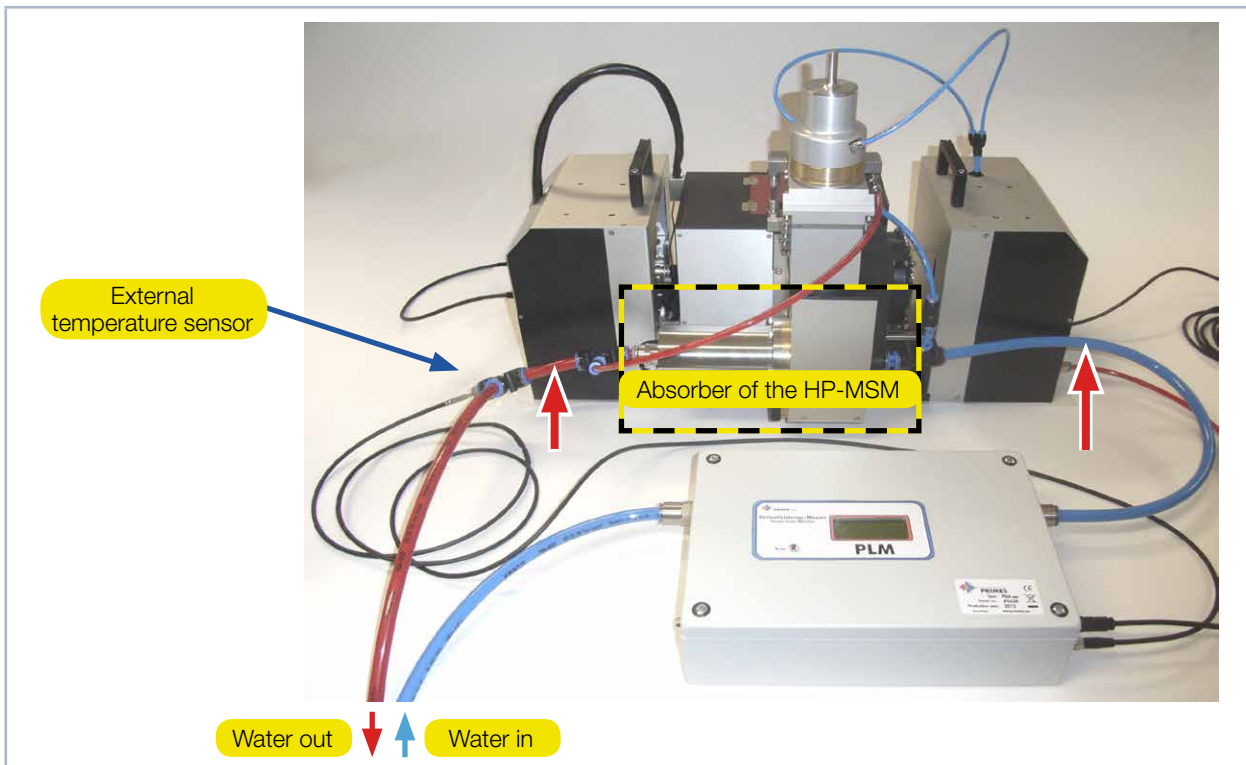

Fig. 7.4: Cooling Circuit PLM 10 with external temperature sensor with the example of the HP-MSM
1. Plug the external temperature sensor into the cooling circuit output using a T-piece (see Fig. 7.4 on page 16).